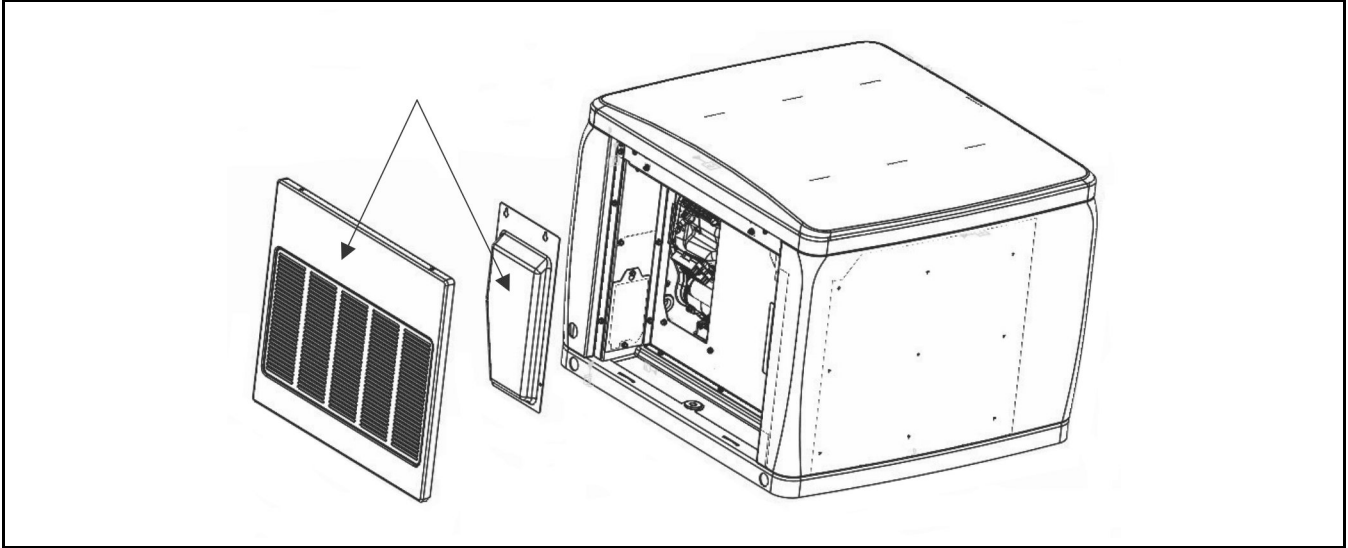

FIGURE 1. PANELS REMOVED
- h. Re-install the panels shown in Figure 1.